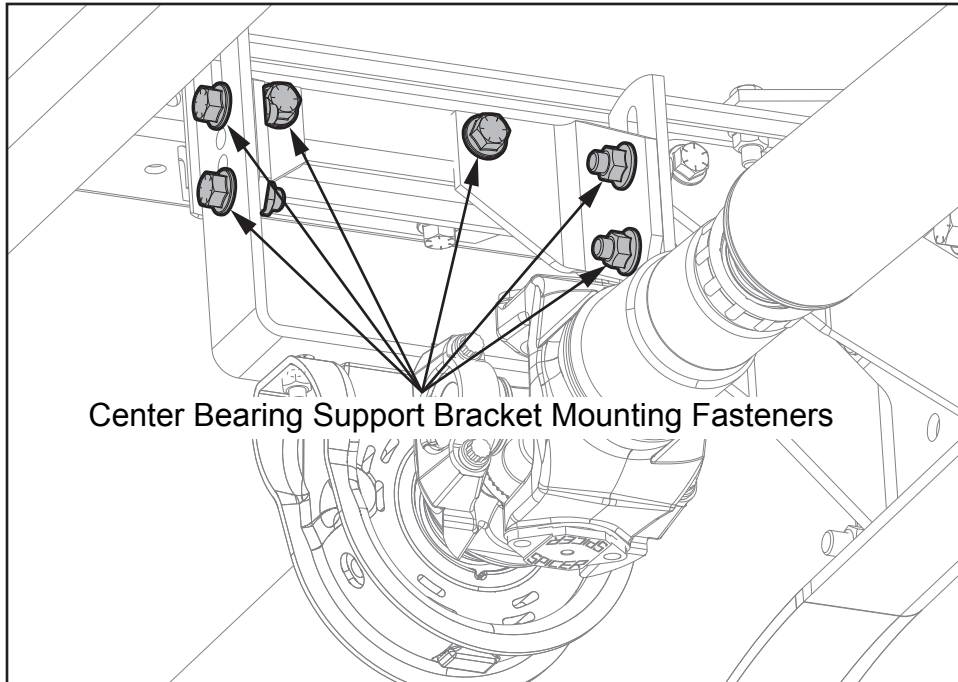

Figure 4, ACX vehicles with steel cross members
6. For ACX vehicles equipped with steel cross members. Locate the 6 center bearing support bracket mounting fasteners and tighten to 90 Lbs-ft of torque (see Figure 4).